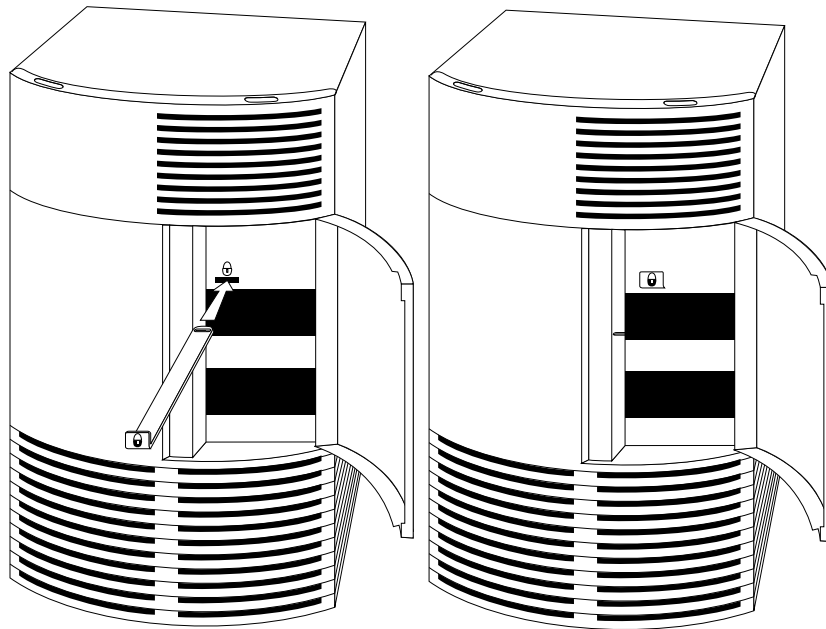

Figure 2-30 Sliding the Lockbar into the Slot in the Front of the Workstation
3. Hold the lockbar so the lock icon faces you and is upright, as shown in Figure 2-30. Slide the lockbar all the way into the slot.